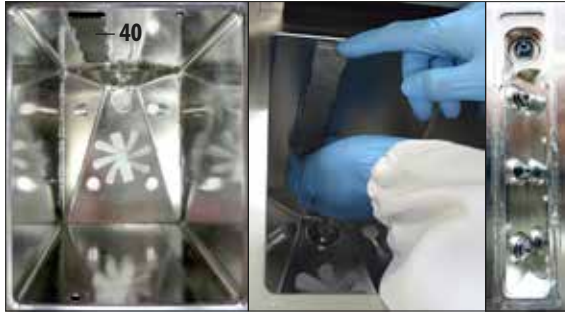

Fig. 238
- Remove the screen (40, Fig. 238) in front of the sensors.